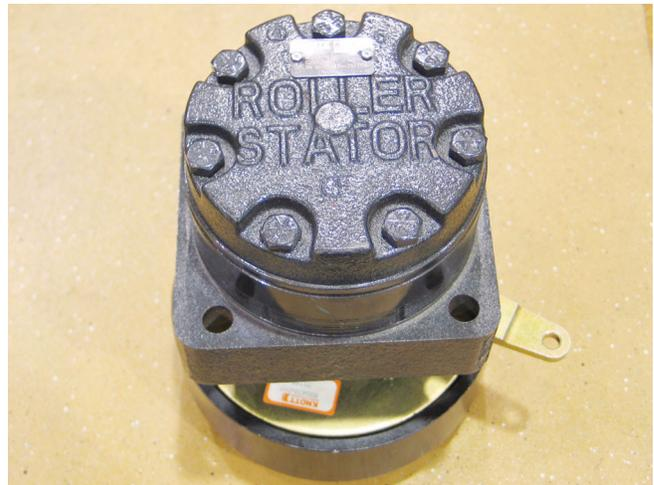

Figure 23.10
23.10. The wheel motors are manufactured by White Hydraulics. There is no financial nor managerial relationship between White Hydraulics and White Outdoor Power. They are a separate company, and Cub Cadet Commercial is simply a customer. See Figure 23.10.